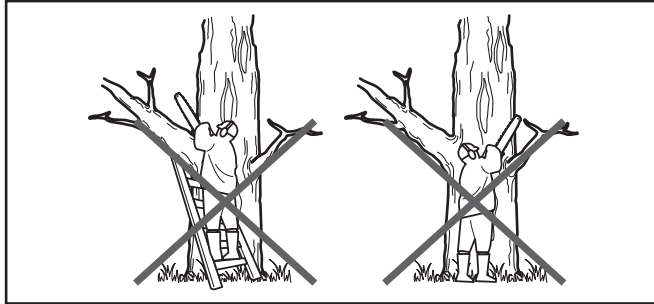

Fig. 20
6. Reset the spiked bumper (4) at a low point when cutting thicker logs by pulling the product slightly backwards until the gripping teeth release, and reposition at lower level to continue sawing. Do not remove the product completely from the wood.
8. Do not operate the product with arms fully extended or attempt to saw areas which are difficult to reach, or on a ladder. Never use the product above shoulder height (Fig. 20).